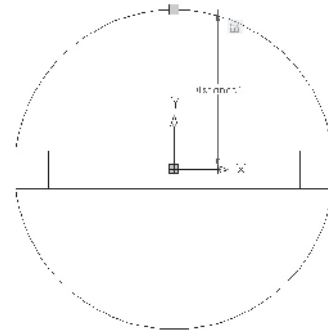
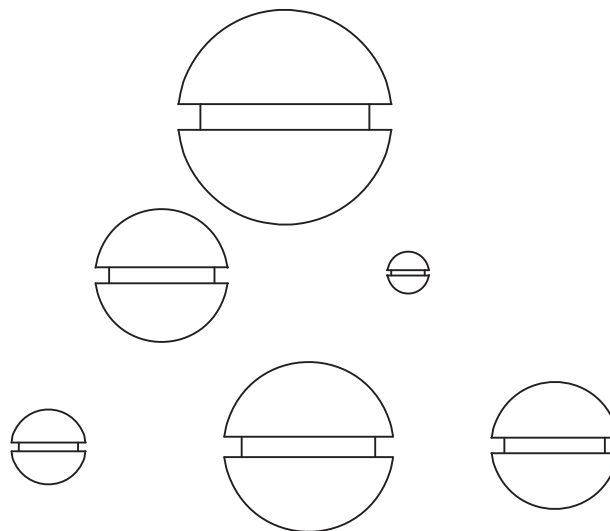

Fig. 34-9
Fig. 34-10
- Open the file named **flathead.dwg** that you created in Chapter 33. Create a block named **dynflathead** with the screw head's center as the base point. In the block editor, create a polar parameter with the center of screw head as the base point. Specify a **Grip Display** of **1**. Assign a scale action to the parameter. Your dynamic block should look similar to the one in Fig. 34-9. Save the dynamic block and close the block editor. Insert several of the blocks into the drawing area. Scale the blocks to a variety of sizes. Use the keyboard to enter numeric values for the diameter on several, then scale the others by dragging the grip with the cursor. Your finished drawing should look similar to Fig. 34-10. Save your work as **dynflathead.dwg**.